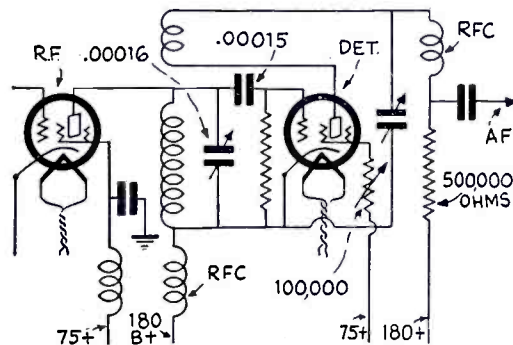

Fig. 4—Screen-grid detector circuit for "Super-Wasp."
A. 1. The screen-grid detector circuit is given in Fig. 4. It will probably be necessary to increase the plate voltage